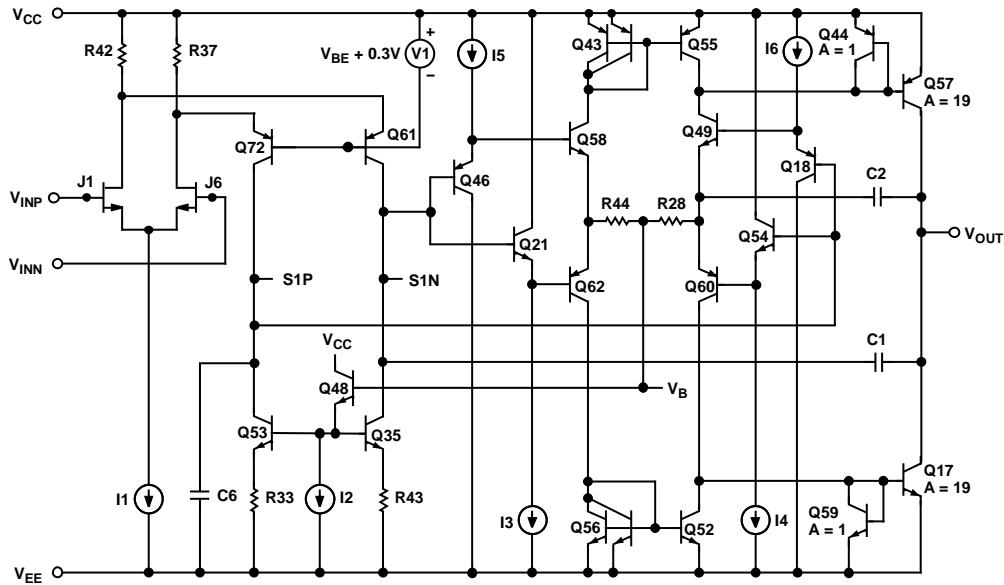

Figure 36. Simplified Schematic
The AD823 is fabricated on the Analog Devices, Inc. proprietary complementary bipolar (CB) process that enables the construction of PNP and NPN transistors with similar f_T 's in the 600 MHz to 800 MHz region. In addition, the process also features N-Channel JFETs that are used in the input stage of the AD823. These process features allow the construction of high frequency, low distortion op amps with picoamp input currents. This design uses a differential output input stage to maximize bandwidth and headroom (see Figure 36). The smaller signal swings required on the S1P/S1N outputs reduce the effect of the nonlinear currents due to junction capacitances and improve the distortion performance. With this design, harmonic distortion of better than -91 dB @ 20 kHz into 600Ω with $V_{OUT} = 4$ V p-p on a single 5 V supply is achieved. The complementary common emitter design of the output stage provides excellent load drive without the need for emitter followers, thereby improving the output range of the device considerably with respect to conventional op amps. The AD823 can drive 20 mA with the outputs within 0.6 V of the supply rails. The AD823 also offers outstanding precision for a high speed op amp. Input offset voltages of 1 mV maximum and offset drift of $2 \mu V/^\circ C$ are achieved through the use of the Analog Devices advanced thin film trimming techniques.